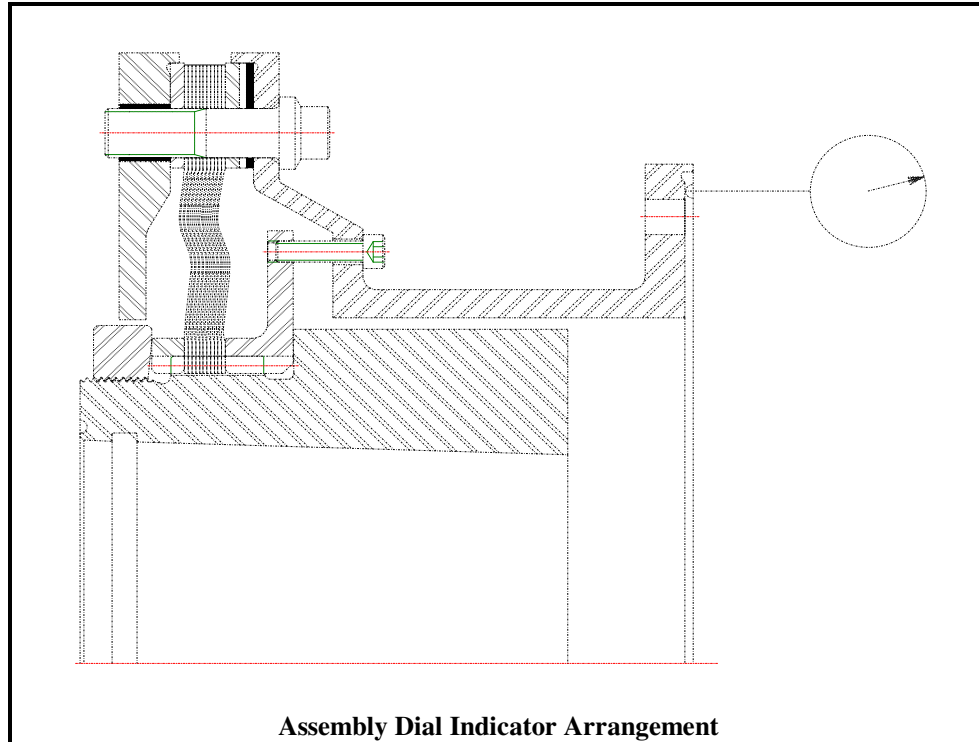

Figure 5-1
- 5.2.3 Tighten the shipping hardware evenly to draw-up the pack adapter on the overspeed trip end only to the dimensions specified on the Ameridrives Sales Drawing. The use of two (2) dial indicators at 180° apart (see Figure 5-1) or determining the number of screw turns required based on thread pitch (see Table 5-1) are common ways of measuring draw-up.